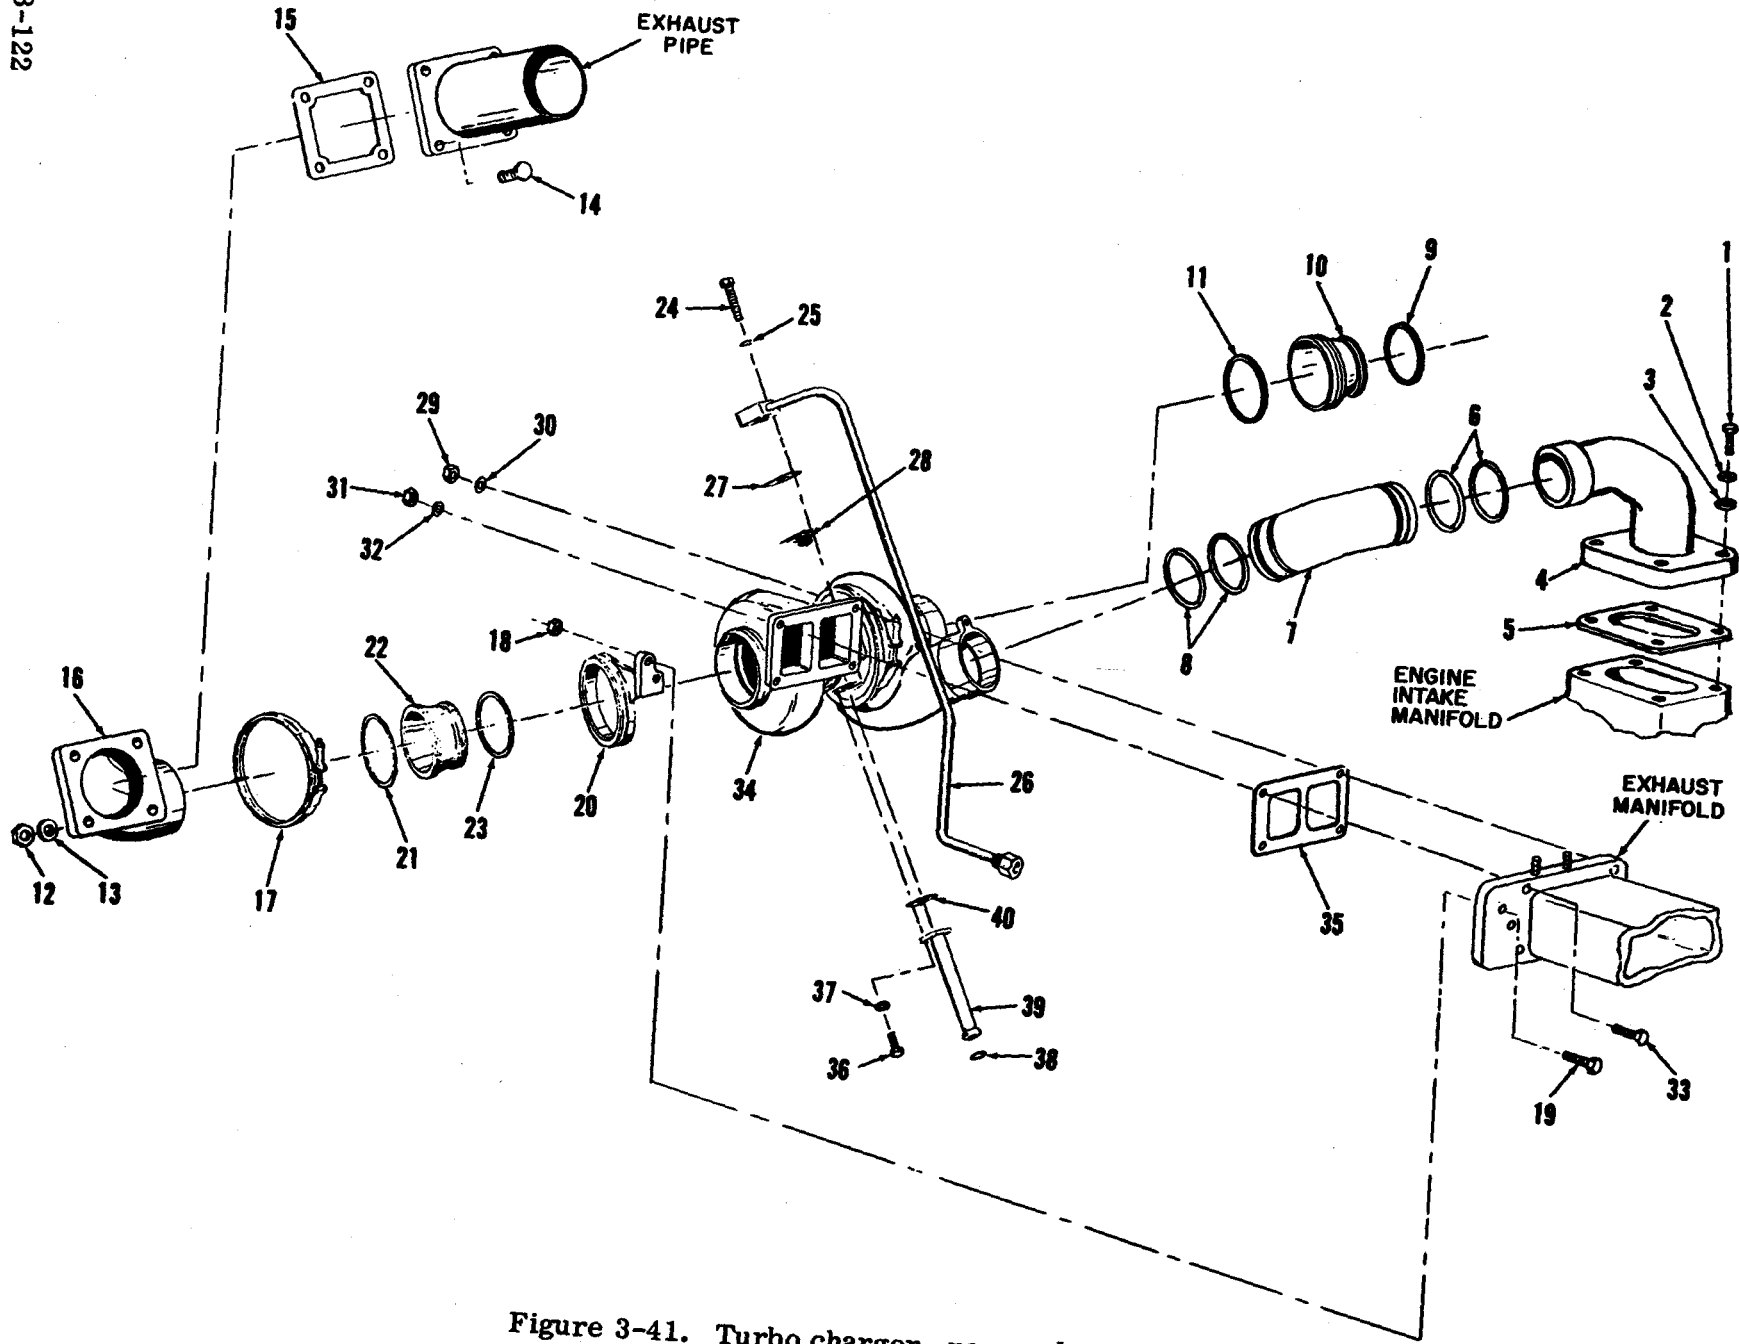

Figure 3-41. Turbo charger, removal and installation
b. **REMOVAL.** Remove turbo charger in sequence illustrated in figure 3-41, observing the following:
2. Remove ether starting aid tube, nozzle, and bushing from intake elbow (4, figure 3-41) prior to elbow removal. Refer to figure 4-1.
2. Inspect seals (6, 8, 9, 11, and 38, figure 3-41) and rings (21 and 23) for condition.
d. **INSTALLATION.** Install turbo charger in reverse sequence illustrated in figure 3-41, observing the following:
Legend to figure 3-41: